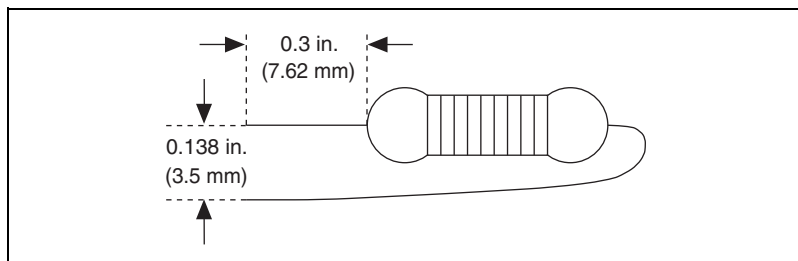

Figure C-11. Preparing Lead Wires of PCMCIA-CAN/LS Cable Replacement Resistors
2. Bend and cut the lead wires of the two resistors you want to install, as shown Figure C-11.